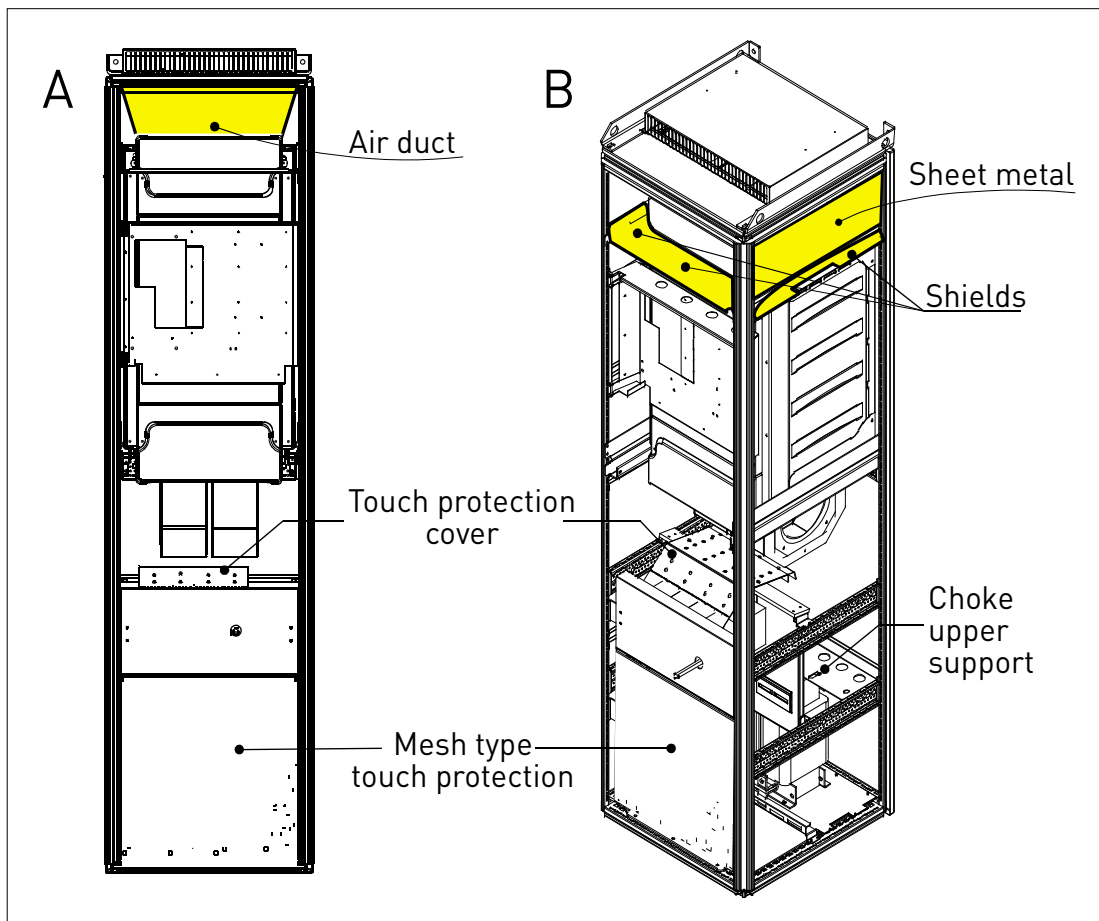

Figure 36. Arrangements for steering hot air to the outlet at the top of the cabinet, one-cabinet solution
**NOTE!** To allow free air circulation, the touch cover at the bottom of the cabinet must be of type meshed sheet metal screen. For the same reason, the busbar touch protection cover and the choke upper support must be equipped with holes. See Figure 36.